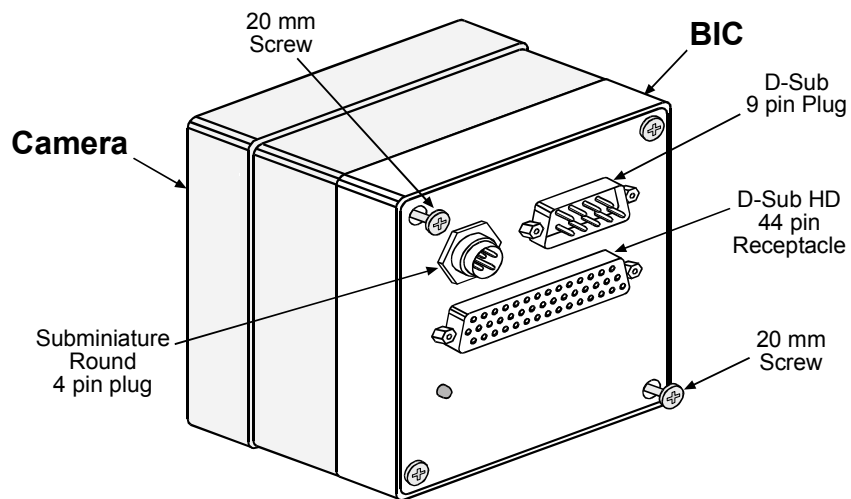

Figure A-12: BIC Mated Directly to Camera
5. Get two 20 mm long screws from the BIC installation kit. Insert the screws through the BIC (see Figure A-12) and screw them into the back of the camera. This will lock the BIC and the camera together.